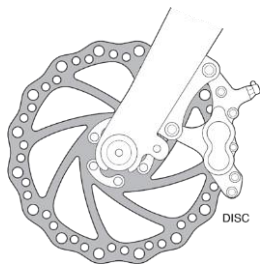
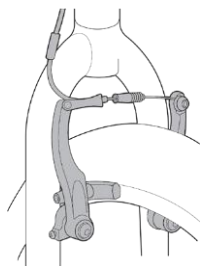

fig. 14
fig. 15
1. If your bike has rim brakes, disengage the brake's quick-release mechanism to increase the clearance between the tire and the brake pads (see Section 4.C, figs. 14 through 18, p. 45).
1. If you have a multi-speed bike with a derailleur gear system: shift the rear derailleur to high gear (the smallest, outermost rear sprocket). If you have an internal gear rear hub, consult your dealer or the hub manufacturer's instructions before attempting to remove the rear wheel. If you have a single-speed bike with rim or disk brake, go to step (4) below.
2. If your bike has rim brakes, disengage the brake's quick-release mechanism to increase the clearance between the wheel rim and the brake pads (see Section 4.C.1, figs. 14 through 18, p.42).
3. Some bicycle brakes, such as disc brakes (fig. 14) and linear-pull brakes (fig. 15), are extremely powerful. Take extra care in becoming familiar with these brakes and exercise particular care when using them.
Make sure that your hands can reach and squeeze the brake levers comfortably. If your hands are too small to operate the levers comfortably, consult your dealer before riding the bike. The lever reach may be adjustable; or you may need a different brake lever design. Most rim brakes have some form of quick-release mechanism to allow the brake pads to clear the tire when a wheel is removed or reinstalled. When the brake quick release is in the open position, the brakes are inoperative. Ask your dealer to make sure that you understand the way the brake quick release works on your bike (see figs. 14, 15, 16, 17, & 18) and check each time to make sure both brakes work correctly before you get on the bike.